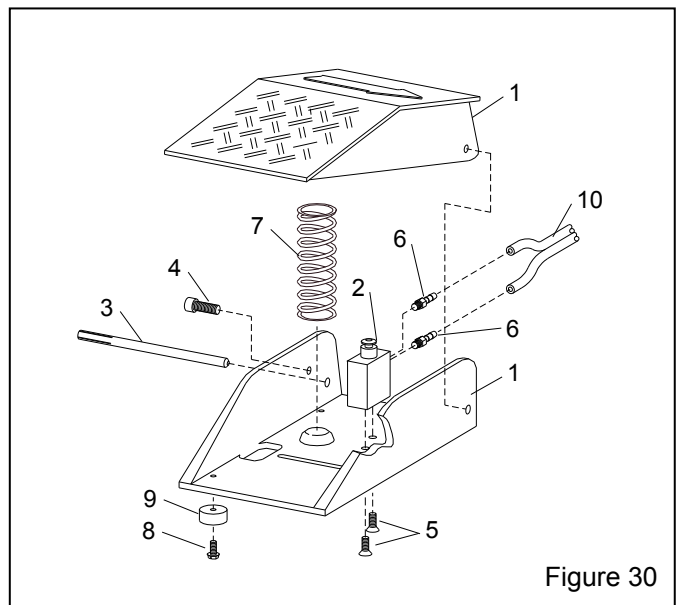

Figure 30
9.4 Foot Pedal Assembly, Figure 30